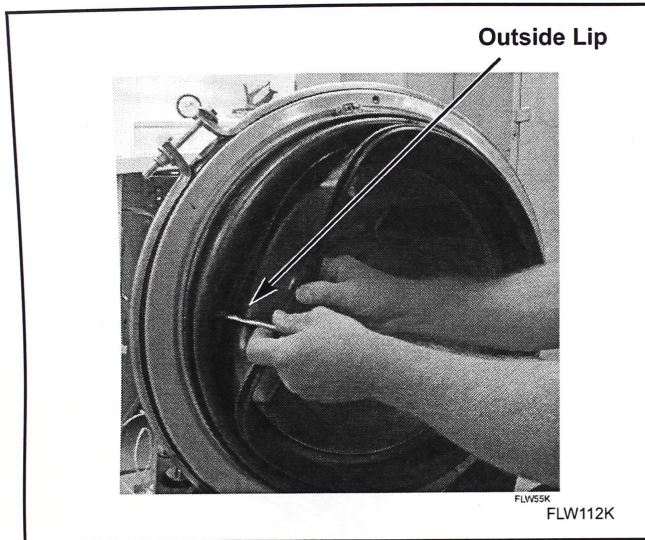
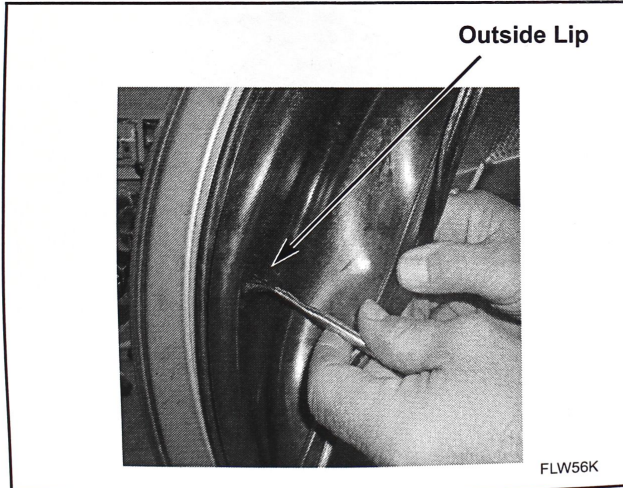

Figure 3
Figure 4
- a. Using a brush applicator, apply lubricant within outside lip of seal from 9 to 3 o'clock position. Refer to *Figure 3* and *Figure 4*.